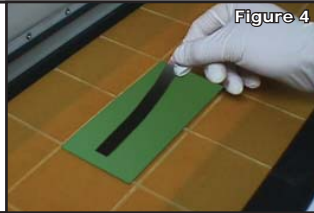

Figure 4
**5** The 21 step grey scale is now placed onto the test cliché with the emulsion side (matte side) facing down and in direct contact with the clichés emulsion side. (Figure 4)